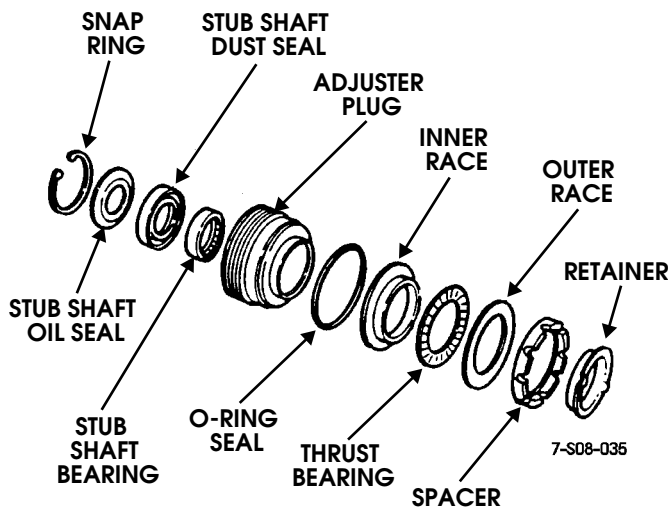

Figure 8-61: Adjuster Plug Assembly Sequence
3. Install stub shaft oil seal and dust seal in adjuster plug with tool J-6221. Then install snap ring to secure seals and bearing (Figure 8-61).
4. Assemble and install thrust bearing and races in adjuster plug (Figure 8-61). Be sure races are installed as shown (Figure 8-61).
5. Install spacer and retainer in adjuster plug (Figure 8-61).